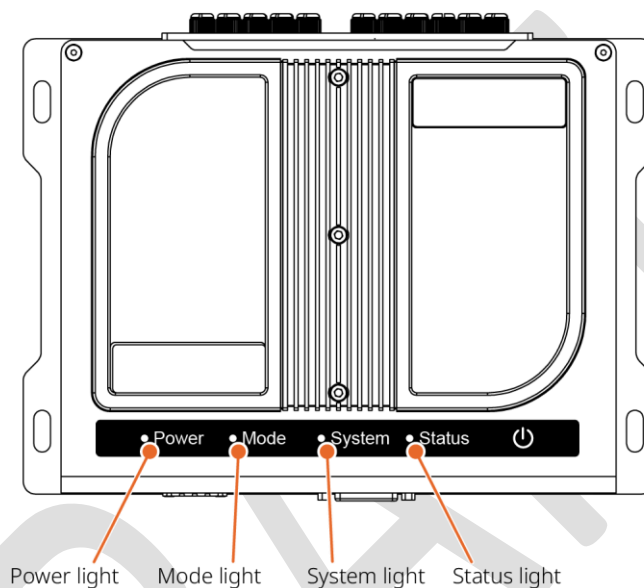

Figure 22. LED indicators on the DynamiQ-S.
This paragraph gives step-by-step instructions on how to start-up and commission the GC. The DynamiQ-S micro-GC gas analyzers have 2 power modes namely: industrial and laboratory mode. With industrial mode the GC is directly turned on when connected to a power source. When the GC is configured with laboratory mode it will turn on when the power-on button on the GC is manually pushed. The modes are interchangeable and can be configured at Qmicro. When powering up, the status LED light indicator should light up. The status LED light indicator is located at the front of the DynamiQ-S see Figure 22.
- c. In case the LED light indicators illustrated in Figure 22 do not light up, the GC is unable to receive power. Contact Qmicro support team.